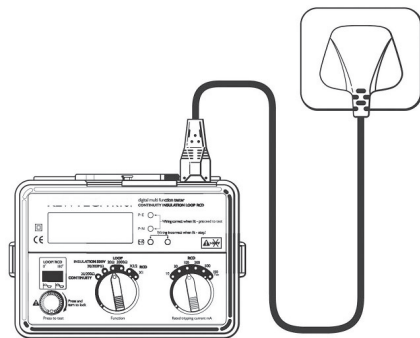

Fig 10
- Connect the mains lead (See Fig. 10 above) to the IEC socket of the instrument.
- Connect the mains lead (See Fig. 10) to the IEC socket of the instrument.